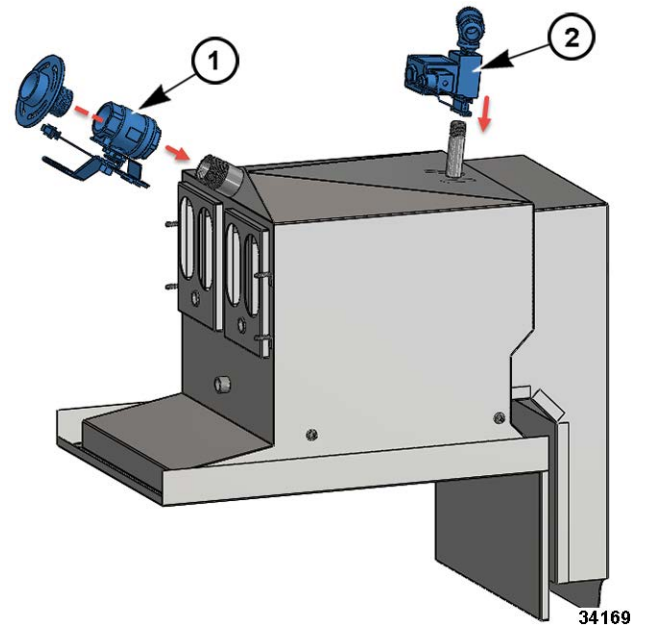

Fig. 54
9. Remove oil solenoid valve assembly (Fig. 52 and 1 in Fig. 54) and drain valve (Fig. 53 and 2, Fig. 54) from tank and install on new tank using RECTORSEAL 5® or equivalent NSF rated thread sealant.